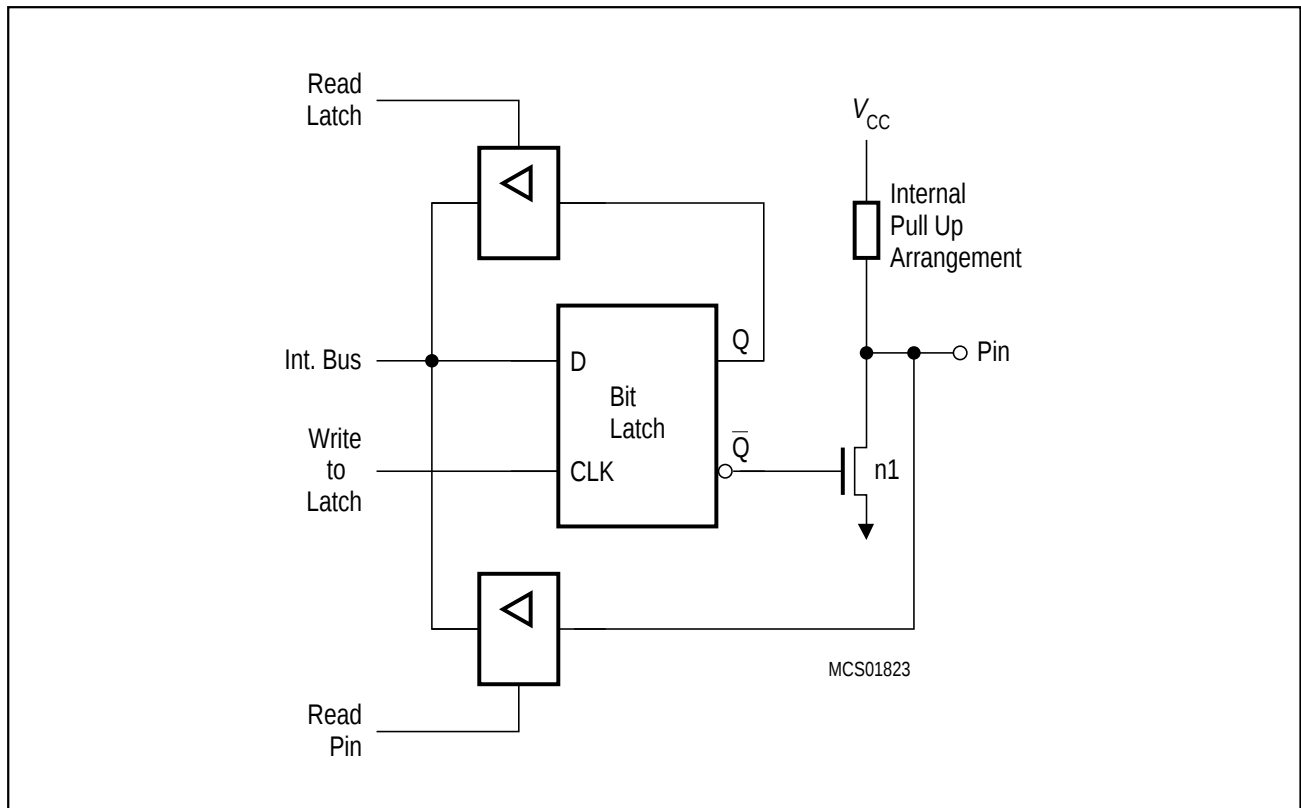
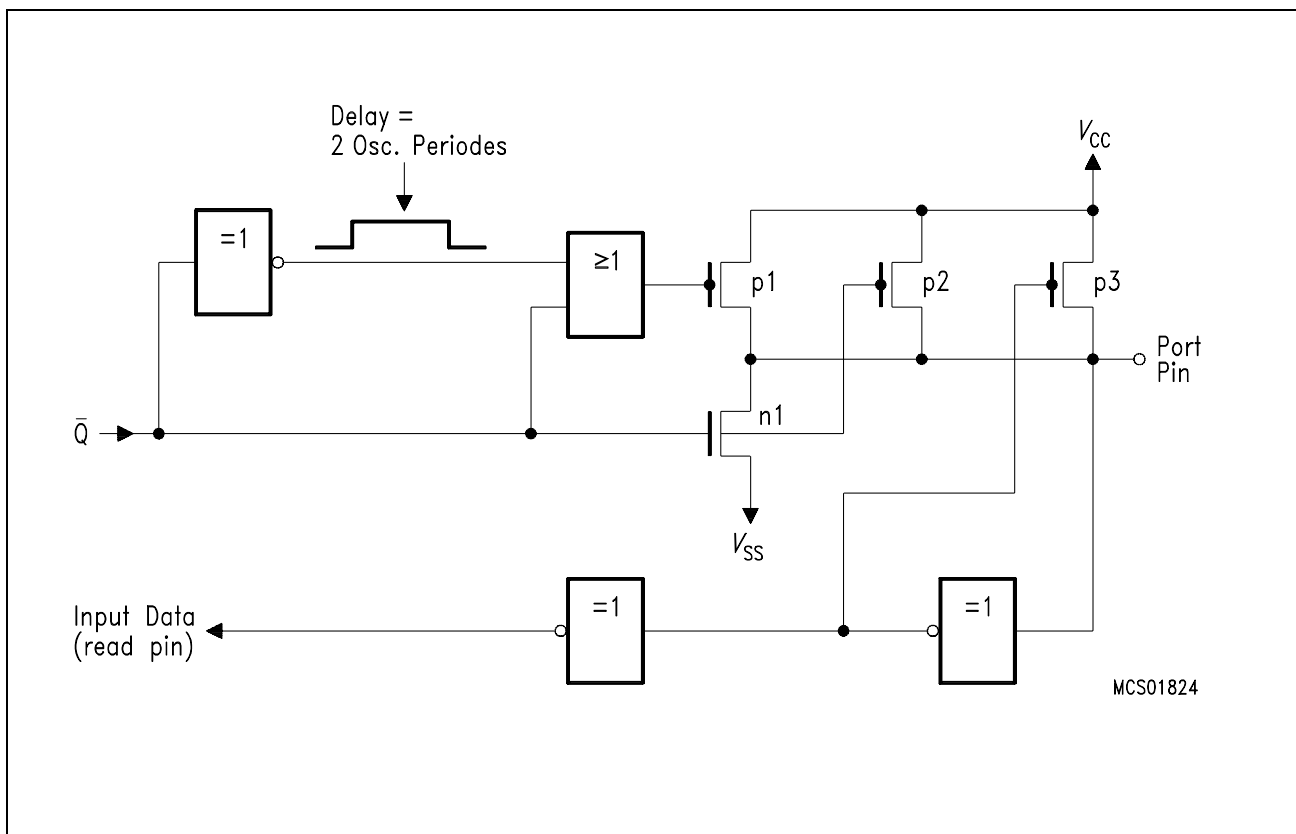

Figure 7-2
Figure 7-3
Port 1 through 6 output drivers have internal pullup FET's (see **figure 7-2**). Each I/O line can be used independently as an input or output. To be used as an input, the port bit must contain a one (1) (that means for **figure 7-2**: $\bar{Q} = 0$), which turns off the output driver FET n1. Then, for ports 1 through 6, the pin is pulled high by the internal pullups, but can be pulled low by an external source. When externally pulled low the port pins source current (I_{IL} or I_{TL}). For this reason these ports are sometimes called "quasi-bidirectional".
In fact, the pullups mentioned before and included in **figure 7-2** are pullup arrangements as shown in **figure 7-3**. One n-channel pulldown FET and three pullup FETs are used: